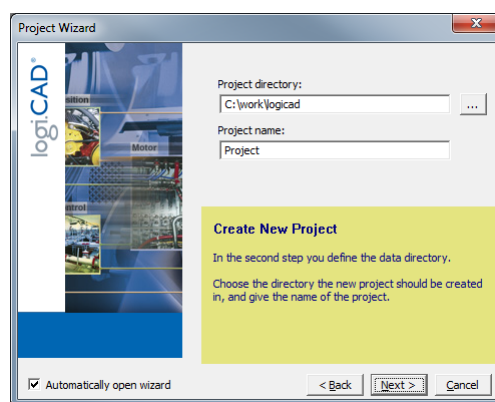

Figure 32: Project name and path
5. Specify the name of the project and the path where to store the project files, see Figure 32.